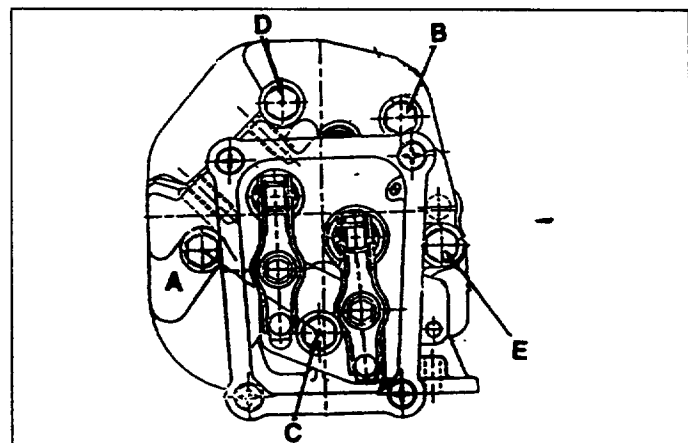

FIG. 8
- The torque sequence is A, B, C, D, E (star pattern). See Fig. 8.